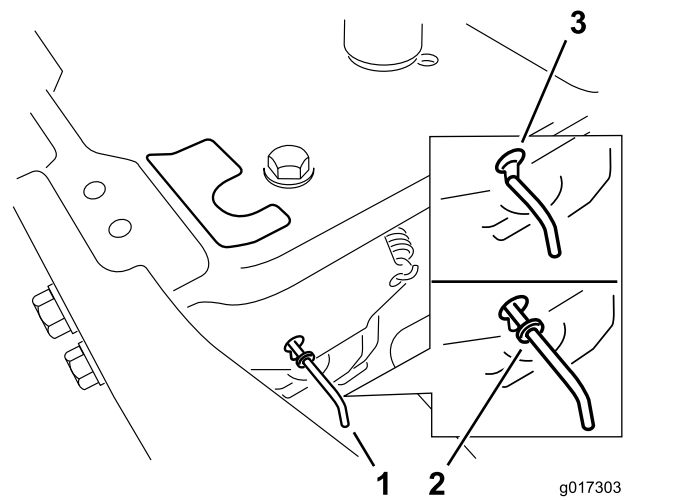

Figure 31
4. Move the bypass levers forward through the key hole and down to lock them in place (Figure 31).
Move the bypass levers rearward through the keyhole and down to lock them in place as shown in Figure 31.